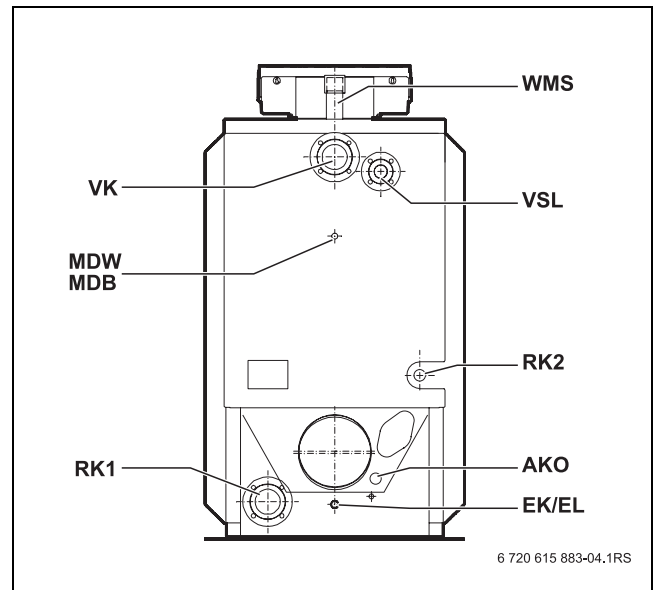

Fig. 5 Logano plus SB615 Gas boiler connections
- ▶ Connect the minimum pressure monitor or minimum pressure limiter (with R $\frac{1}{2}$ to R $\frac{1}{4}$ connection piece adapter) to the MDW/MDB connection on the boiler (→ Fig 5).
- ▶ Seal the flow pipe for the low water indicator into the 2" LWI connection on the boiler (→ Fig. 5).